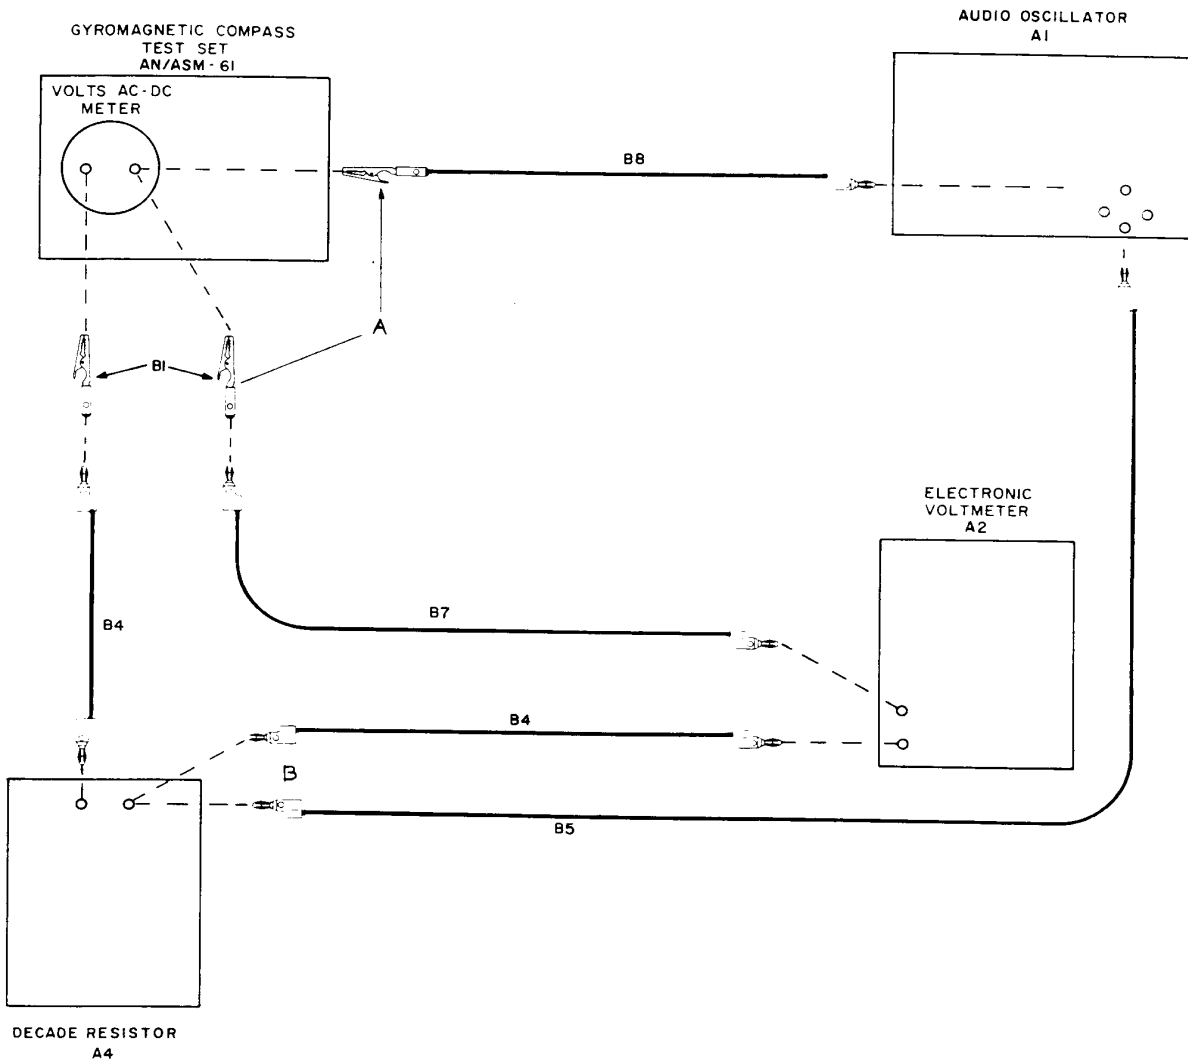

Figure 2. Gyro Magnetic Compass Test Set AN/ASM-61, milliammeter equipment setup.
- (1) Connect the equipment as designated in figure 2.
- (2) Adjust the controls of decade resistor (A4) for 150,000 ohms.
- (3) Position Test Instrument switch S1 to **SLAVE CHECK**.
(6) Repeat the procedure given in (4) and (5) above for the Test Instrument test meter indications of 100 and 50 as specified in table 3.
(7) Reduce the audio oscillator output amplitude to zero. Remove decade resistor (A4) from the setup. Disconnect the test leads from the meter, and connect the lead sets designed A and B in figure 2 to pins A and B, respectively, of P-1 on the front panel of the Test Instrument.
(8) Position Test Instrument switch S1 to **POWER CHECK**, and switch S5 to AB.
(9) Repeat the procedure (table 3, line 1 only) given in (4), and (5) above. Requirements shall be as indicated in table 3.
(10) Reduce the audio oscillator output to zero. Disconnect the lead sets designated A from connector P-1 and reconnect to pin C of the connector. Position Test Instrument switch S5 to BC.
(11) Repeat the procedure (table 3, line 1 only) given in (4), and (5) above. Requirements shall be as indicated in table 3.
(12) Turn the audio oscillator power ON-OFF switch to OFF. Remove the audio oscillator from the test setup and insert power supply (A5). Use adapters (B3) where required.
(13) Position Test Instrument switch S5 to 28 VDC Connect lead set A and B to connector P-1 pins A and D, respectively.
(14) Turn the power supply power switch to ON and adjust the output voltage for an indication of 30 on the Test Instrument VOLTS AC-DC meter.
(15) Indication on the electronic voltmeter shall be between 27 and 33 volts dc.